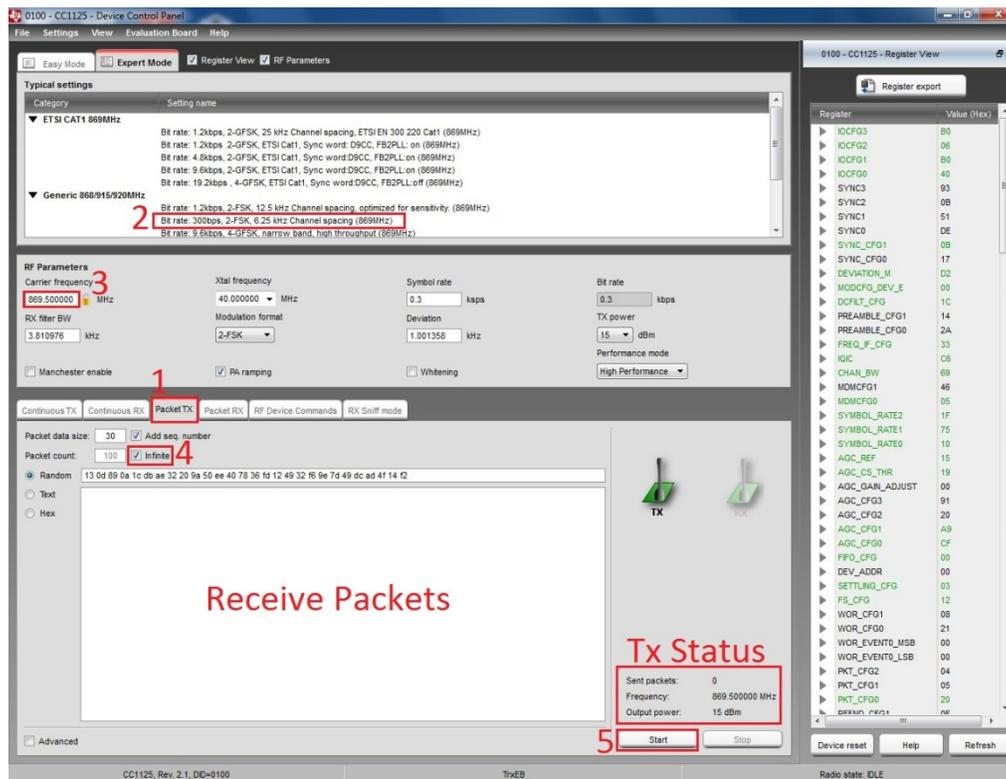

Figure 9. Device Control Panel Window – SmartRF Studio
3. It opens up another window called “Device Control Panel”, which is shown in Figure 9.
Follow the steps 1 through 5 in the same order as shown in Figure 9.